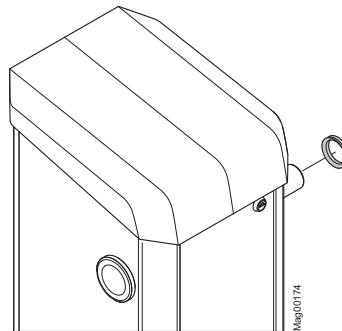

Fig. 33: Remove the v-ring
15. Slip the v-ring over the flange shaft. The sealing lip points towards the barrier housing. → See also page 79, Fig. 33.